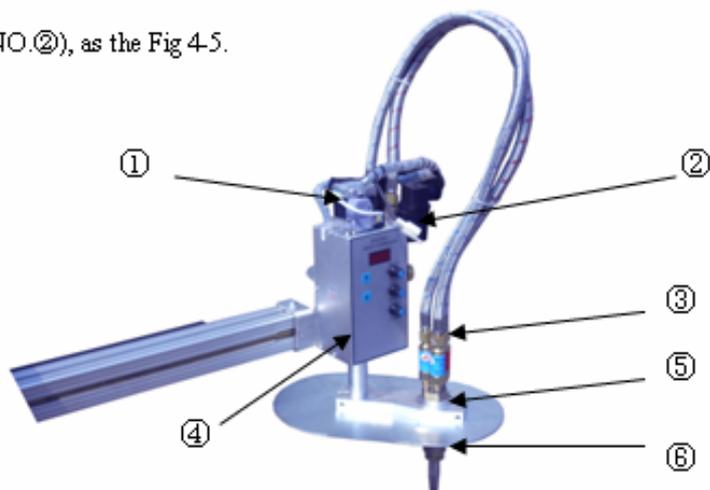

Fig 4-11
The following Fig 4-11 show the connection of flame torch with capacitance height controller, 2-core connector (NO.②) is hang in the air, pipe connection as the Fig 4-10.